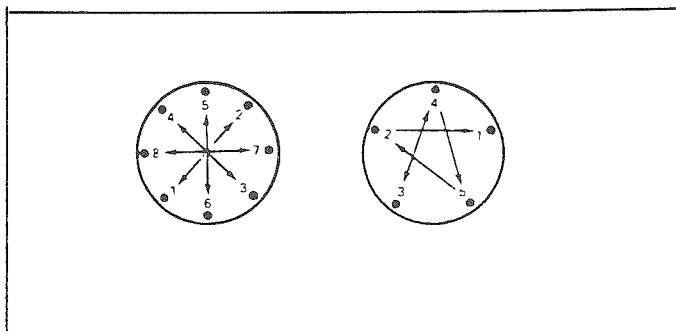

Figure 128 — Wheel Nut Tightening Sequence
**TIGHTENING WHEEL STUD NUTS** – When your REVCON is new or after wheels have been replaced, it is the owner's responsibility to check wheel stud nuts at 500 miles and after every wheel removal thereafter. Nuts should be tightened to 150-ft.lbs. torque in sequence shown in figure 128.